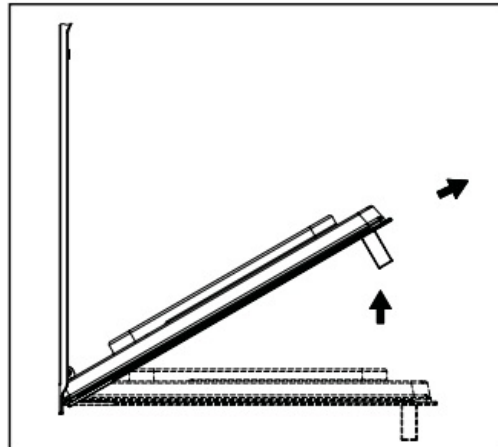

Fig 2
- > Now, shutting the door slightly, you can lift it out by pulling out the hooks “A” as shown in figure 2.